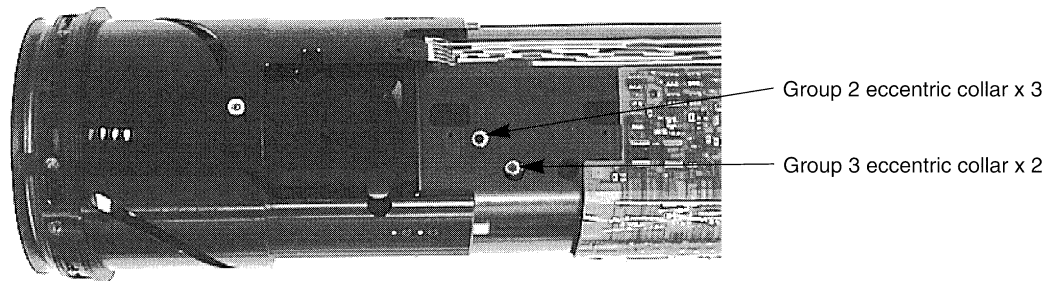

Fig. 3-19 Eccentric Collars for Adjustment
5. In the direction of the central flare, check the marginal focus (image height 16 or 20 mm). If front defocus, adjust the tilt with the group 3 eccentric collar. (See Fig. 3-19.)